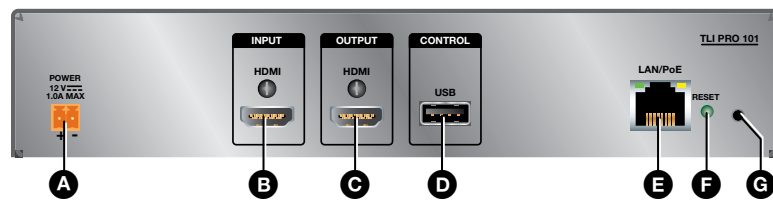
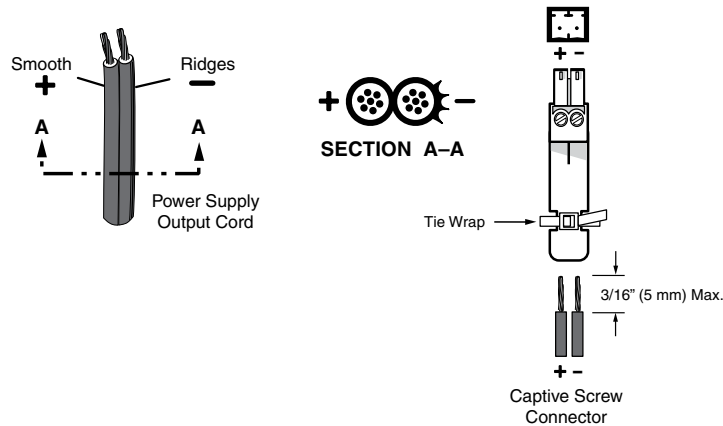

Figure 2. TLI Pro 101 Rear Panel
Figure 3. Wiring the Power Connector
- Connect the HDMI output from the TLI Pro 101 (figure 2, **C** on page 5) to the third-party touchpanel.
- Connect the USB port from the TLI Pro 101 (figure 2, **D**) to the third-party touchpanel.
- A Power** — Connect the 2-pole, 3.5 mm captive screw connector from the provided 12 VDC power supply to the power supply socket on the rear panel (see figure 2 A on page 5). Figure 3 shows how to wire the connector. Ensure the connections have the correct polarity.
- B HDMI Input** — Plug the cable from the input source device into this female HDMI type A connector (see **figure 2 B** on page 5). Secure the HDMI connector to the TLI Pro 101 with the provided LockIt HDMI lacing bracket (see the *LockIt HDMI Lacing Bracket Installation Guide* at www.extron.com).
- C HDMI Output** — Connect this female HDMI type A connector (see **figure 2 C** on page 5) to a third-party touch screen. Secure the HDMI connector to the TLI Pro 101 with the provided LockIt HDMI lacing bracket (see the *LockIt HDMI Lacing Bracket Installation Guide* at www.extron.com).
- D USB Connector** — Supports High-speed USB 2.0 control. Plug a USB cable from the third-party touchpanel into this female type B connector (see figure 2 D on page 5).
- E Network and Power over Ethernet Connector** — Connect the interface to the LAN using a twisted pair cable, terminated with an RJ-45 connector. Use a straight-through Ethernet cable to connect the panel to a switch or router. Use a crossover cable to connect the panel directly to a computer (see **figure 2 E** on page 5).